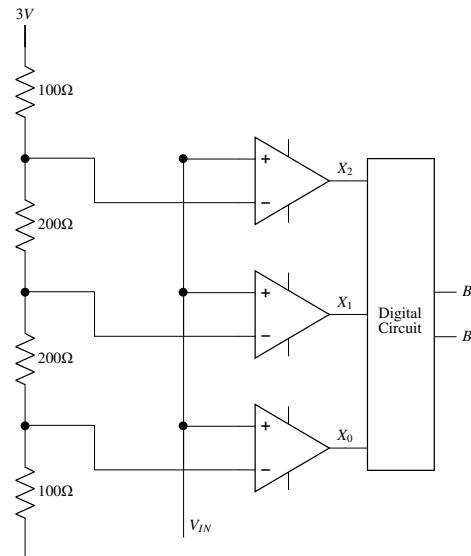

Fig. 3.30
49. A 2-bit flash Analog to Digital Converter (ADC) is given in Fig. 3.30. The input is $0 \leq V_{IN} \leq 3$ Volts. The expression of the LSB of the output B_0 as a boolean function of X_2, X_1 , and X_0 is